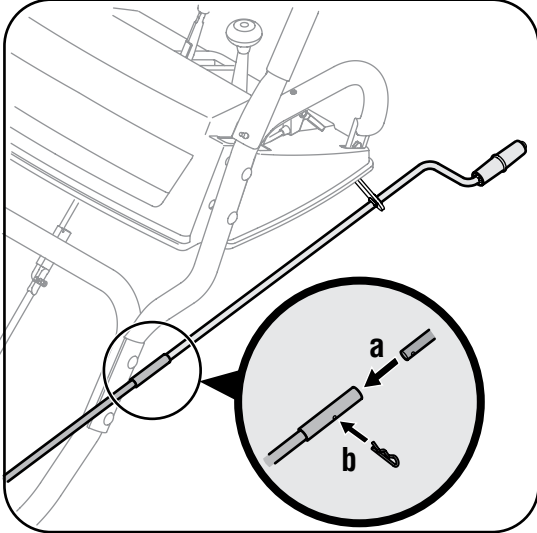

Figure 3-4
2. Align the hole in the upper chute crank with the hole in the sleeve (If necessary, use a pair of pliers to assist in aligning holes). Insert the internal cotter pin through the holes to secure the chute crank. See Figure 3-4.